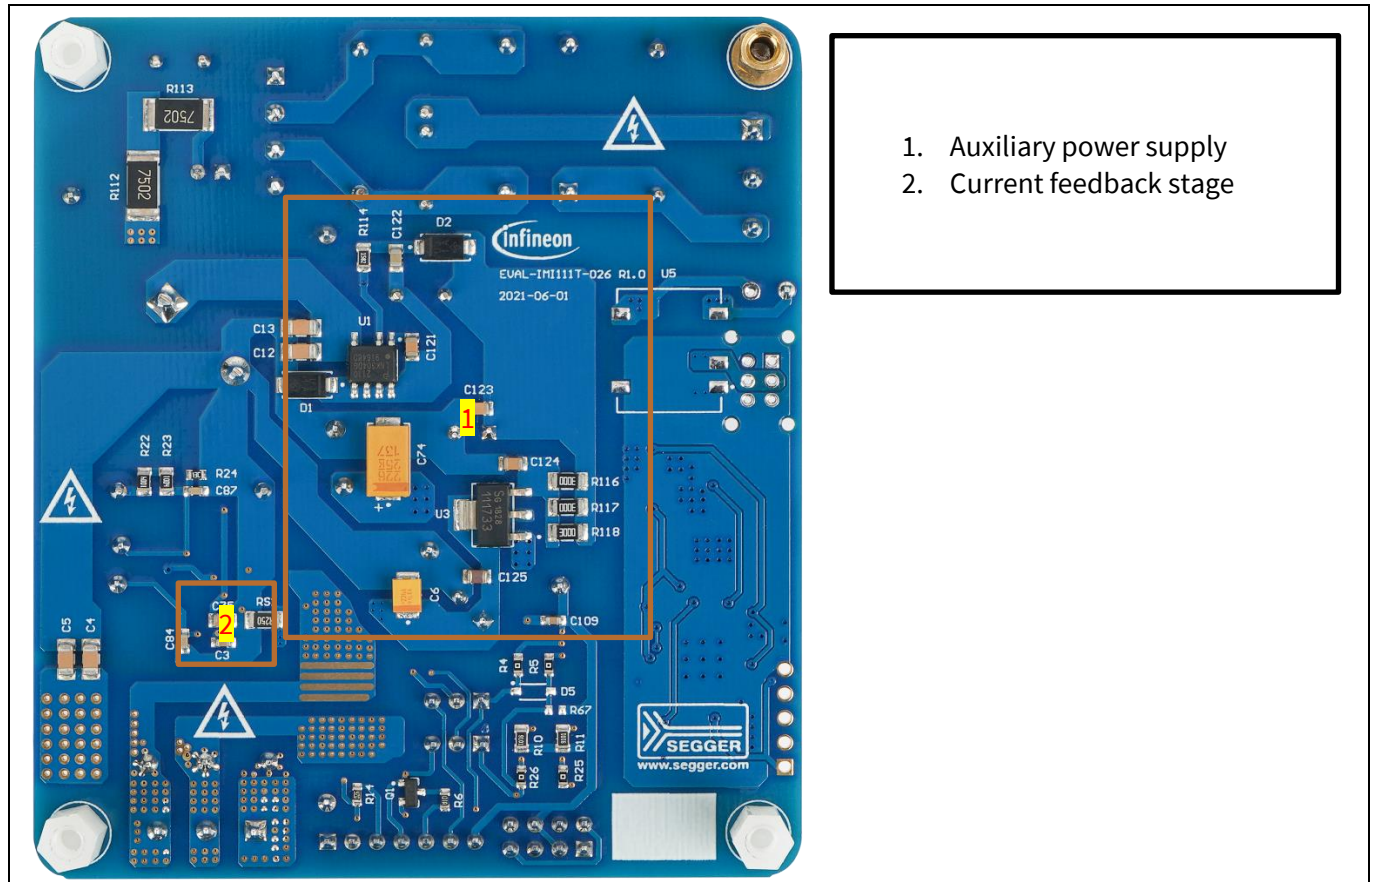

**Figure 2 Functional group on the top side of EVAL-IMI111T**
Figure 2 shows the functional groups on the top side of the EVAL-IMI111T-026 evaluation board. EVAL-IMI111T-046 is similar to EVAL-IMI111T-026, except item 6 is the IMI111T-046H module.